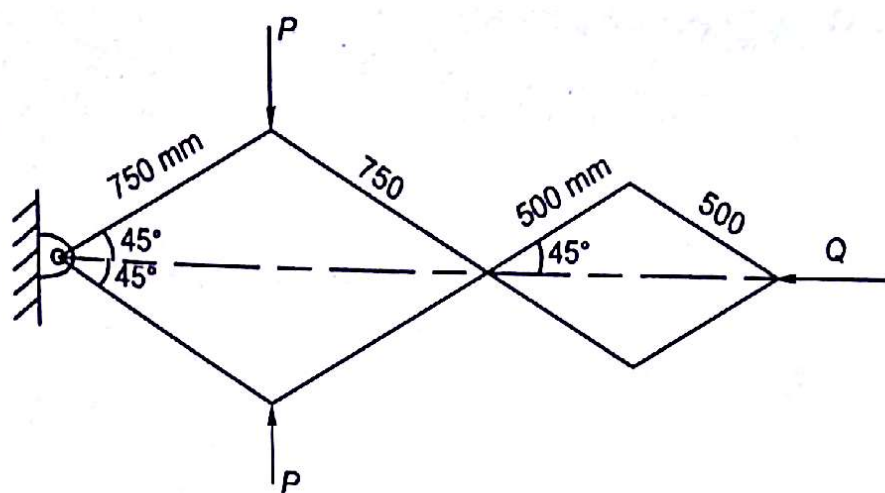

Fig. 9.25
- 9.3 Determine the horizontal reaction Q for the frame consisting of two rhombuses of sides 750 mm and 500 mm each as shown in Fig. 9.25. The frame carries two loads P as shown. If $\theta = 45^\circ$, then what is the reaction Q ?